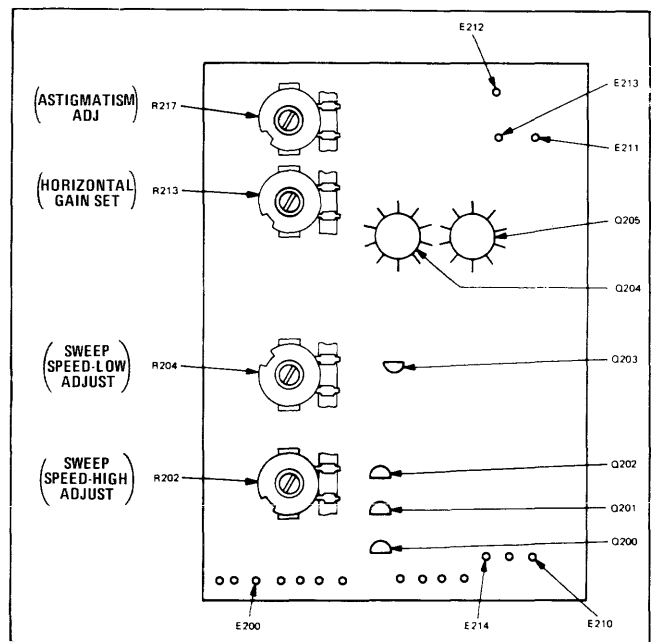

Figure 2-3. Trimmer Locations, Horizontal Amplifier Assembly, A4
- e. If the trace is not visible, connect the VOM between A4E212 and A4E213 (See Figure 2-3). Vary the HORIZ POS control for 0 V dc on the VOM.